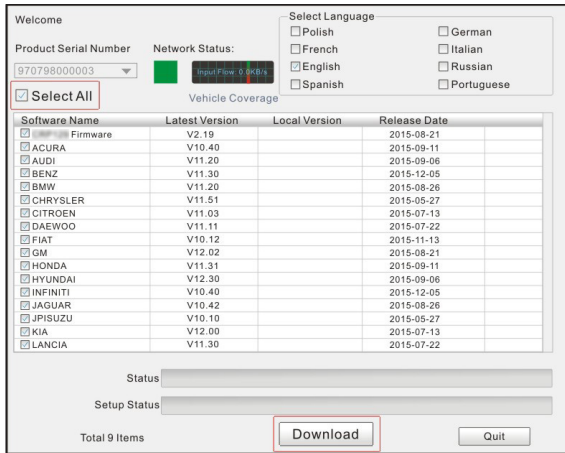

Figure 7-7
10. Reopen the update tool. Select the desired updates manually or click [Select All], and then click [Download] to start downloading. (Figure 7-7)